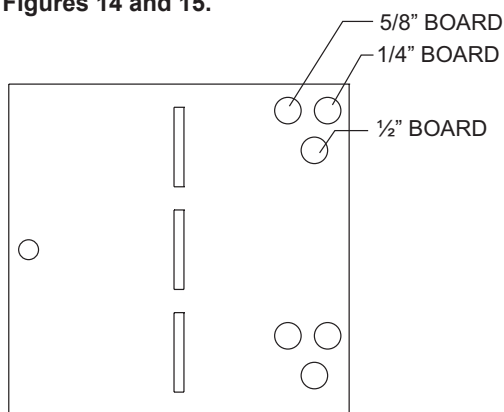
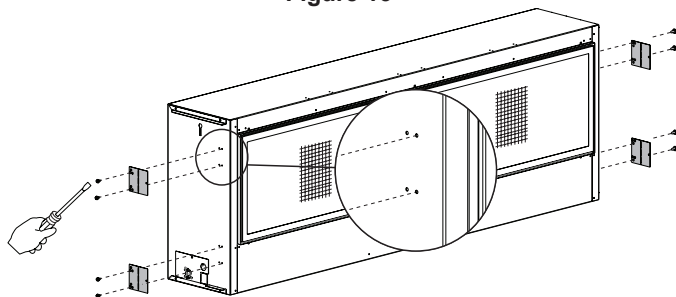

Figure 13
Figure 14 - OPTION 1
2. The holes in the nailing flanges allow for different thickness boards and depths of wall boards. See **Figure 13**. Install nailing flanges with two 10 x 1/2" screws (each) in pair of holes closer to the face of the fireplace. Leave the nailing flanges flat until after the fireplace is lifted into the framing. See **Figures 14 and 15**.